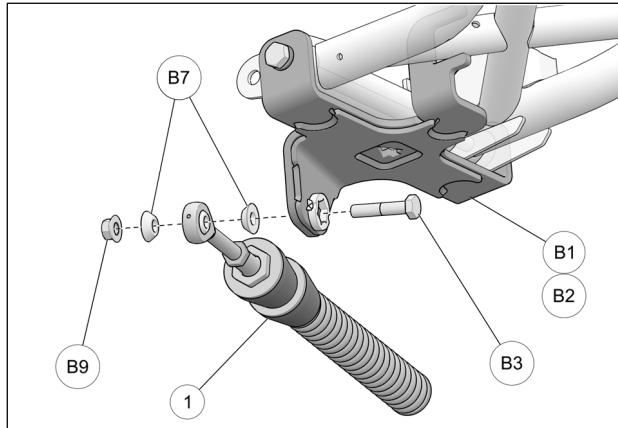

Fig. 10
11. Attach stabilizing rod (1) to anchor bracket (B1-B2), using bolt (B3), Taper spacer bushings (B7), and nut (B9). Torque to 70 N•m [52 lb•ft]. See Fig. 10